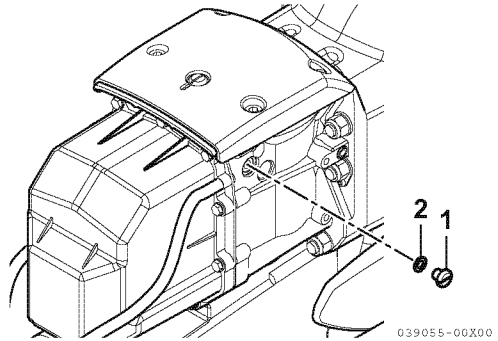

Figure 12
7. Remove the oil vent plug (1, **Figure 12**) and gasket (2, **Figure 12**). Allow the oil to drain completely.